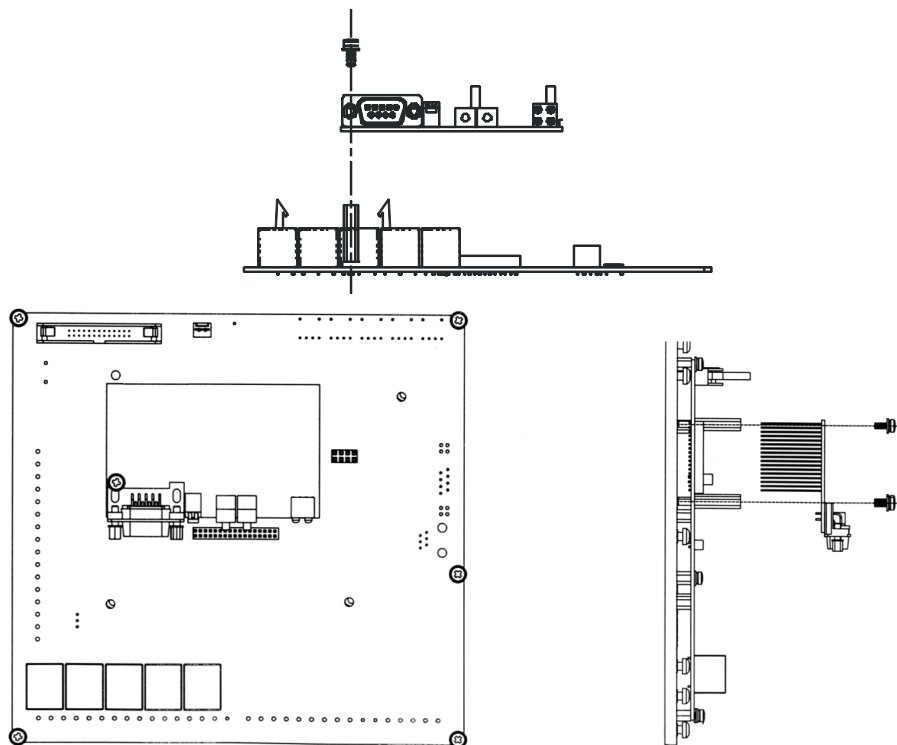

Figure 13.1: Fieldbus electronic board installation
3. Carefully fit the male XC140 connector into the correspondent MVC4 connector. Verify the exact coincidence of all the XC140 connector pins (Figure 13.1 on page 13-1).